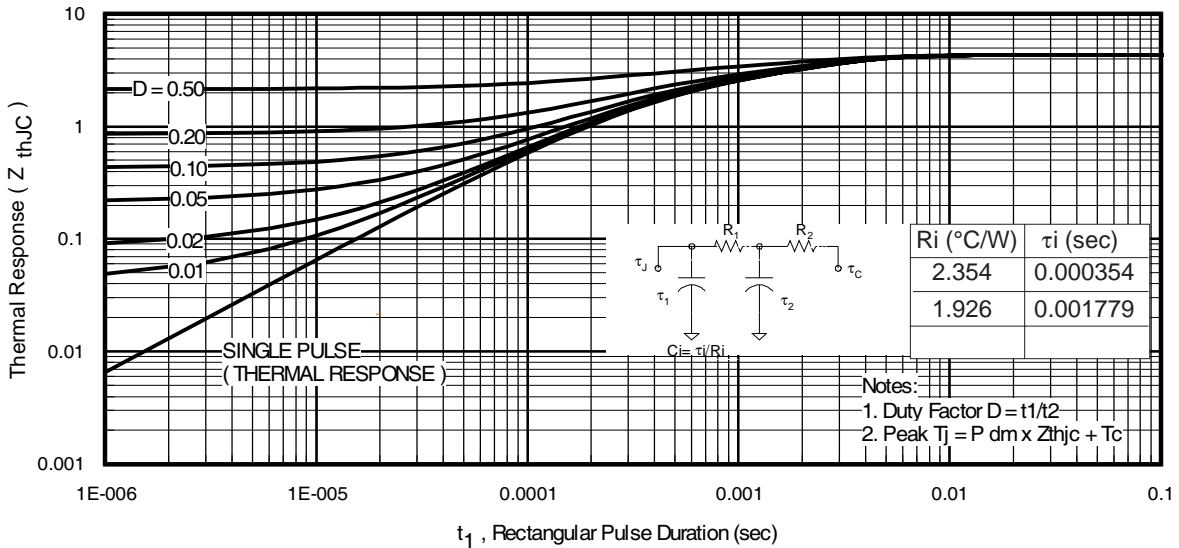
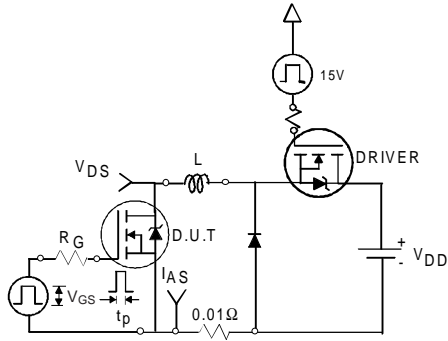

Fig 11. Maximum Effective Transient Thermal Impedance, Junction-to-Case
Fig 12a. Unclamped Inductive Test Circuit
3. Equation below based on circuit and waveforms shown in Figures 12a, 12b.
$Z_{thJC}(D, t_{av})$ = Transient thermal resistance, see figure 11)
- ① Repetitive rating; pulse width limited by max. junction temperature. (See fig. 11).
- ② Limited by T_{Jmax} , starting $T_J = 25^\circ\text{C}$, $L = 0.54\text{mH}$, $R_G = 25\Omega$, $I_{AS} = 9.6\text{A}$, $V_{GS} = 10\text{V}$. Part not recommended for use above this value.
- ③ Pulse width $\leq 1.0\text{ms}$; duty cycle $\leq 2\%$.
- ④ C_{OSS} eff. is a fixed capacitance that gives the same charging time as C_{OSS} while V_{DS} is rising from 0 to $80\% V_{DSS}$.
- ⑤ Limited by T_{Jmax} , see Fig.12a, 12b, 15, 16 for typical repetitive avalanche performance.
- ⑥ This value determined from sample failure population. 100% tested to this value in production.
- ⑦ When mounted on 1" square PCB (FR-4 or G-10 Material). For recommended footprint and soldering techniques refer to application note #AN-994.
- ⑧ R_θ is measured at T_J of approximately 90°C .